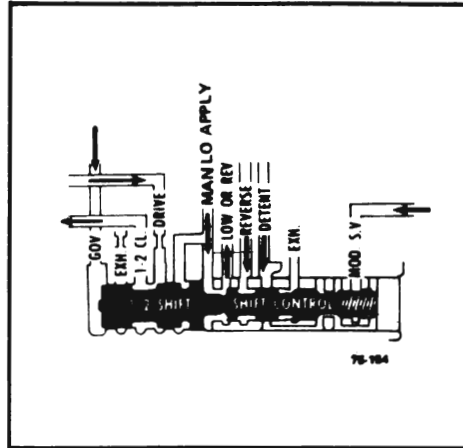

Figure 75-21 - 1-2 Shift Valve
i. 1-2 Shift Valve (See Figure 75-21)
Routes oil pressure that causes the transmission to shift from 1-2 or 2-1. Its operation is controlled by governor pressure, detent pressure, modulator pressure, and spring force. See Figure 75-21.